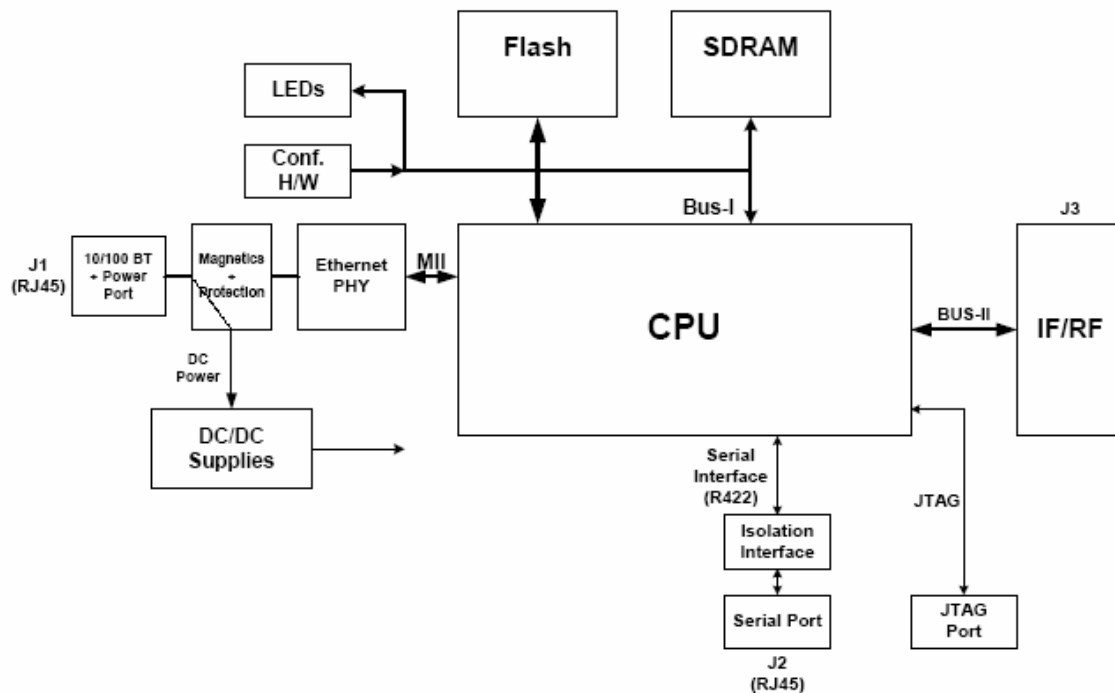

Figure 1-3. ODU Block Diagram
- **Outdoor Unit (ODU):** An enclosed aluminum frame with a front sealed plastic cover, containing an integrated transceiver with an antenna, RF module, modem and standard interfaces. The ODU stores all the configuration parameters of the WinLink1000 system. *Figure 1-3* shows the ODU block diagram.